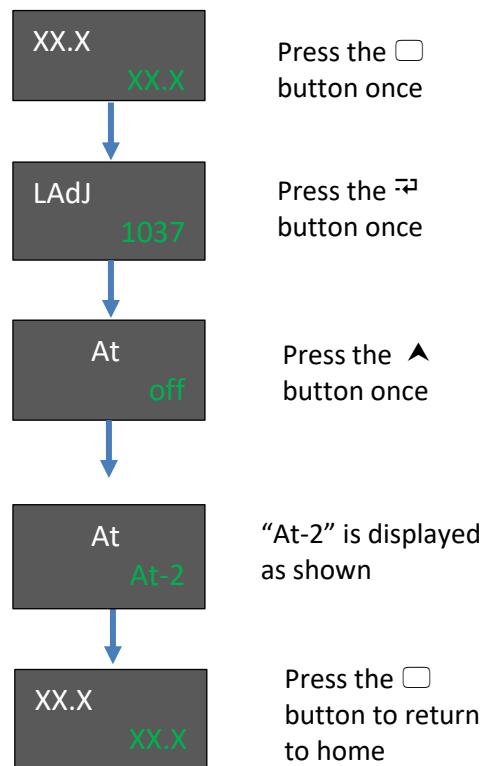

Figure 3. Auto Tune Enable
4. Follow the procedure shown in Figure 3.